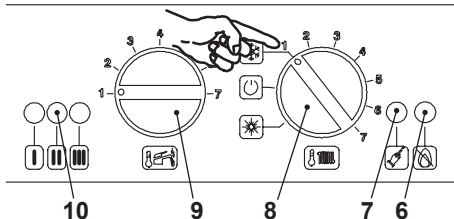

Fig. 8.12
- To leave the gas setting mode and normally run the boiler turn it ON by the function selector 8 (Fig. 8.12) on the desired operation and checking that the burner lights up uniformly. In any case, the boiler automatically resets to its normal operation after 10 minutes.